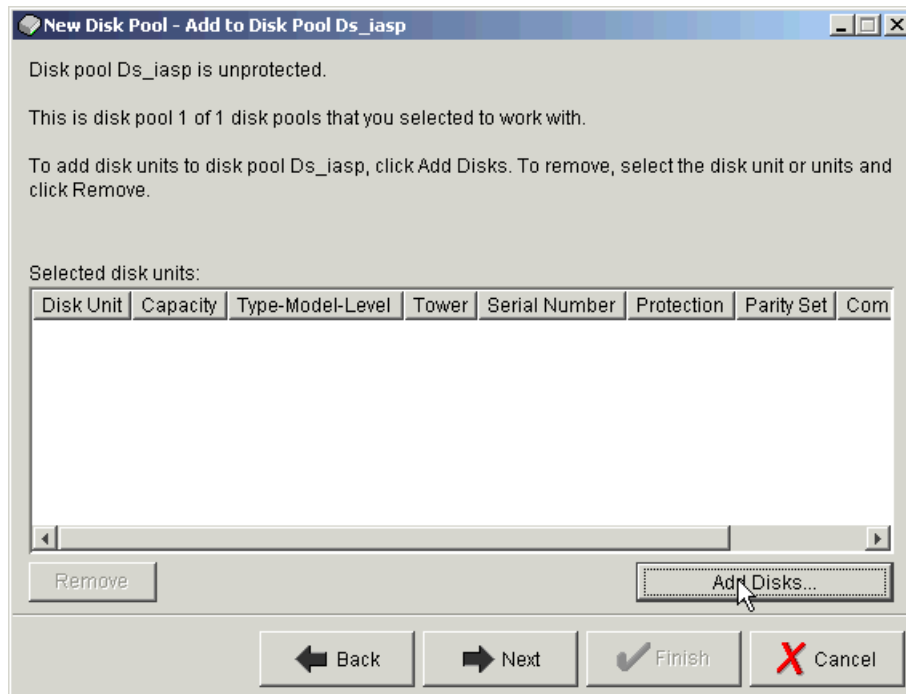

Figure B-14 Add disks to Disk Pool
- Now you need to add disks to the new disk pool. On the Add to disk pool screen, click the **Add disks** button as shown in Figure B-14 on page 382.